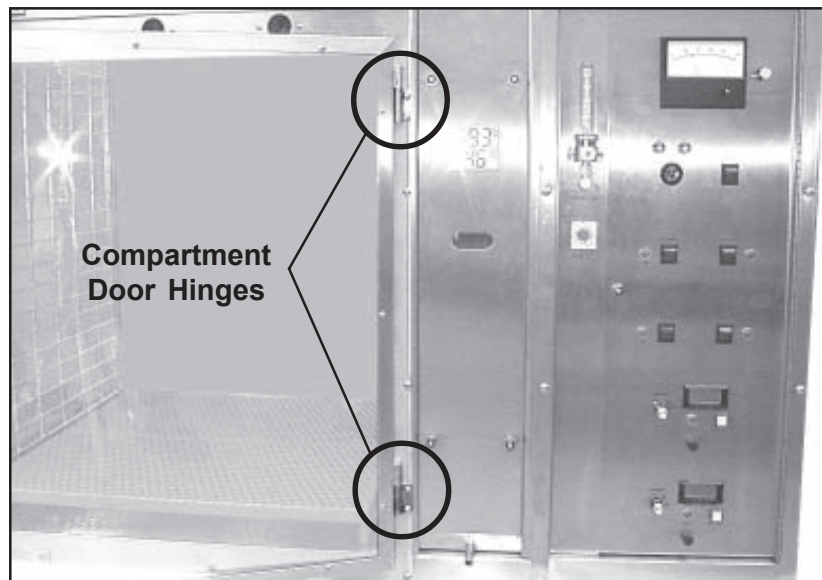

Figure 82. Compartment Door Hinges
2. Lift the complete door up until the upper halves of both door hinges come free of the lower halves (Figure 82).
3. Holding the door firmly, align the pins in the upper halves of both door hinges with the holes in the lower halves, and gently lower the door onto the hinges (Figure 82).
There is one upper and one lower hinge for each compartment door (Figure 82). The hinges on both doors are identical and all are removed and installed the same way. Each hinge has an upper and lower half. **Note:** These instructions tell you how to replace the *lower half only*. The upper half is welded to the door and cannot be replaced other than by replacing the complete door.
2. Holding the door firmly, align the pins in the upper halves of both door hinges with the holes in the lower halves, and gently lower the door onto the hinges (Figure 82).
4. Holding the door firmly, align the pins in the upper halves of both door hinges with the holes in the lower halves, and gently lower the door onto the hinges (Figure 82).